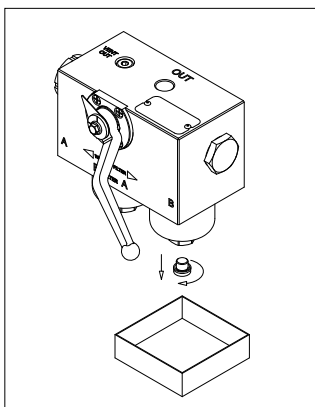

fig. 5
- (Fig. 5) Unscrew the drain plug after placing a vessel to collect the operating fluid